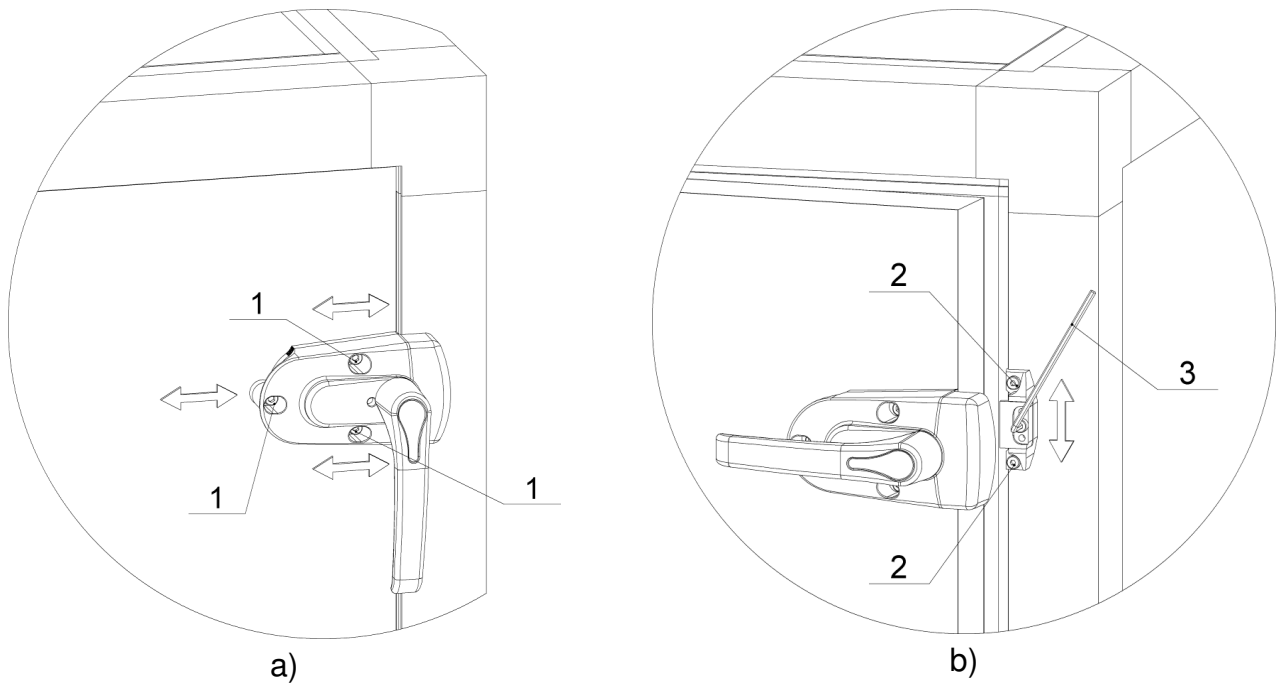

Figure 9.5.2 - AmberAir handle adjustment sequence.
**Handle adjustment (Figure 9.5.2):**
1. Loosen three screws 1 (Figure 9.5.2 a).
4. Loosen two screws 2 (Figure 9.5.2 b).